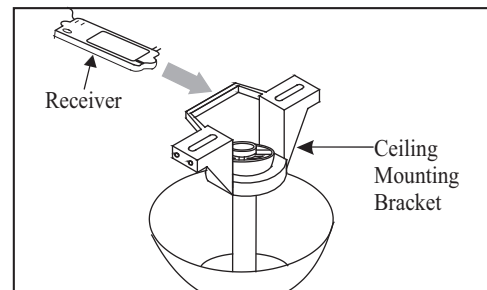

Figure 10
1. Insert the receiver into the mounting bracket with the flat side of the receiver facing the ceiling. (Figure 10)